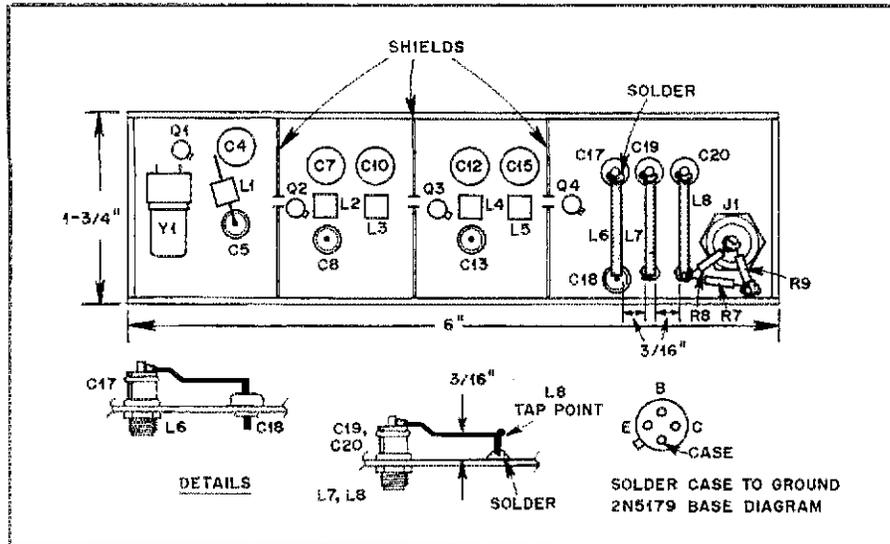

Fig 3—Suggested layout and construction details for the 902-MHz exciter.
- L6, L7, L8—inductor made from copper strap, 1-in long x 1/8-in wide. See text and Fig 3 for details.
Figs 3 and 4 show the general layout. Unless you have had experience laying out UHF circuits, I strongly recommend that you follow the described layout. Build the oscillator section first, then the first doubler, and so on. This allows you to test the circuits individually as you build.
All components except J1, the output BNC connector, are mounted on the foil side of the board. Ground connections are made directly to the copper ground plane. Using Fig 3 as a guide, first install the components that mount through holes in the circuit-board box. The four transistors mount in 0.190-inch-diameter holes. The feedthrough capacitors should be of the solder-in type and must have good UHF characteristics. The piston trimmers used in the 902-MHz output circuit mount in 1/4-inch holes. The output connector, J1,
center to center. Details of L6, L7 and L8 are given in Fig 3.
Fig 4—The exciter is built on a piece of copper-clad circuit-board material. Component leads are soldered together; lead lengths are as short as possible. Shields are used between each stage. Study this photo and Fig 3 for additional details.